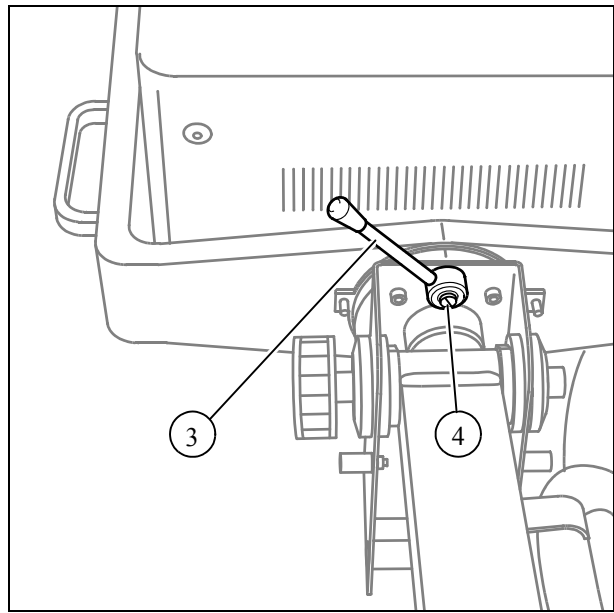

Fig. 3
- Ensure that the clamp handle (3/Fig.3) is secure, and tighten it if necessary.
- When unlocked (clamp handle (3/Fig.3) to the left), the single tank can be easily moved to all sides.
Tighten the clamp handle (3/Fig.3) to the right
- Tighten the clamp handle (3/Fig.3) to the right until it locks into position.
- Remove the clamp handle screw (4/Fig.3), and use the screwdriver to press the clamp handle away from the axle.
- Attach the clamp handle in the vertical position and tighten the screw (4/Fig.3).